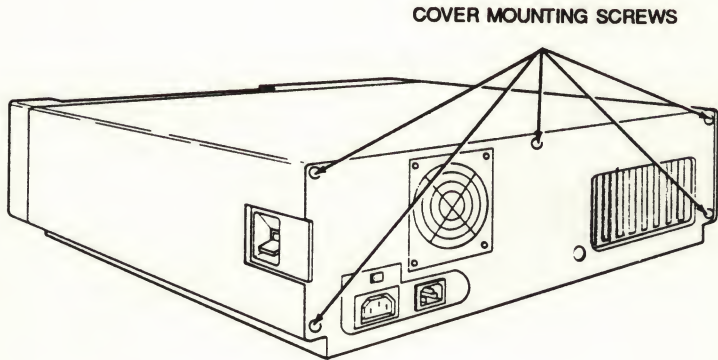

Figure 3-1 Cover Mounting Screws
2. Locate and remove the cover mounting screws as shown in Figure 3-1.